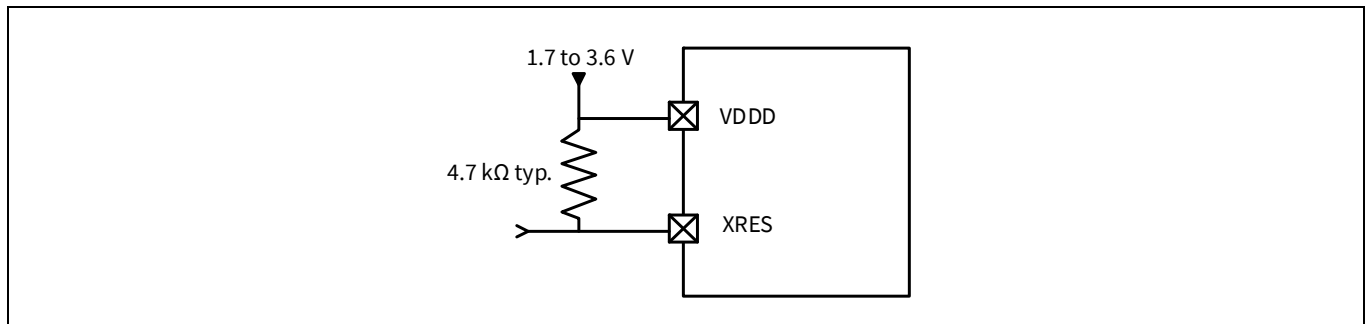

Figure 4 XRES connection diagram
- External reset dedicated pin (XRES) to reset the device using an external source. The XRES pin is active LOW and has a weak internal pull up of 85 k Ω . An optional 4.7 k Ω pull up resistor can be connected to VDDD as shown in Figure 4.